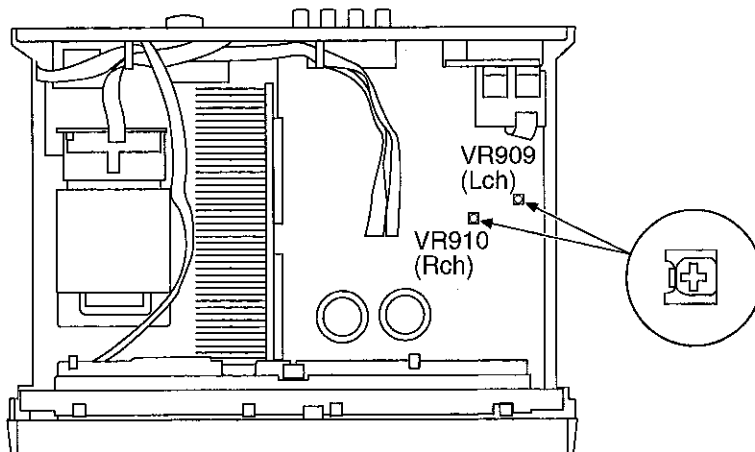

Fig.2
2. Before turning ON the set, adjust VR909 (L ch) and VR910 (R ch) to mechanical center position. (Shown in Fig.2)